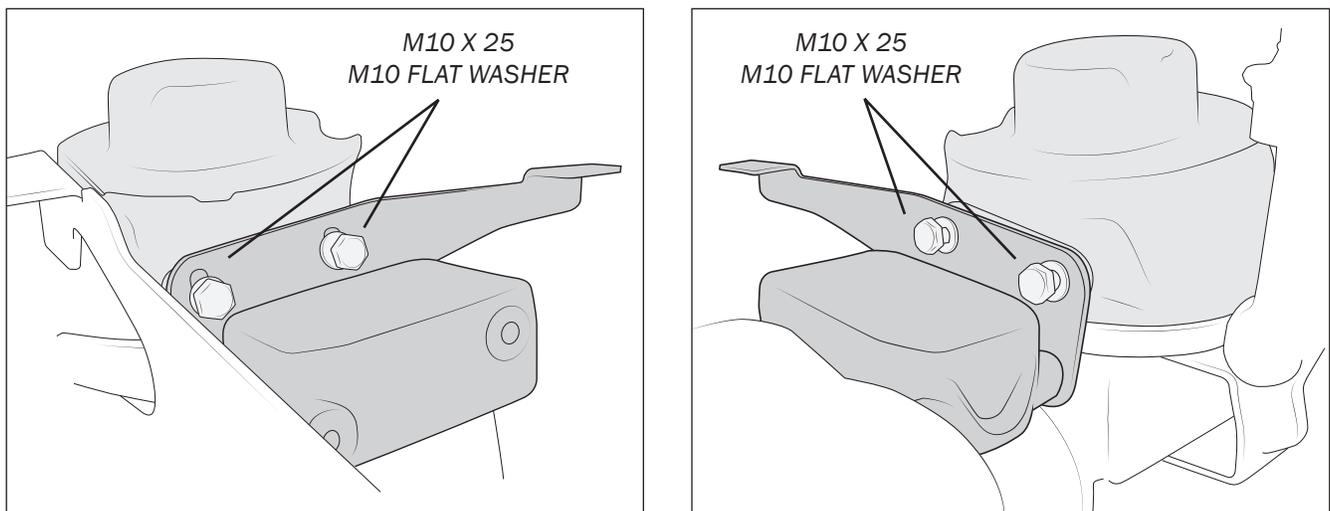

Figure 22
b. Place the bump stop/bracket assemblies on the axle and start the bolts into the coil spacers. Secure with M10 X 25 bolts and M10 Washers but DO NOT tighten (fig. 22).